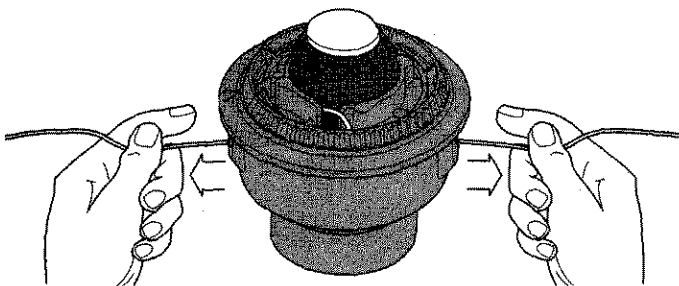

Fig. 23
- If winding the line becomes difficult or the line jams, pull the ends of the line from the spool (Fig. 23). Continue winding the inner reel counterclockwise.
- Hold the inner reel in place and install the bump knob, spring and foam seal. Press down and turn the bump knob clockwise. Grasp the ends and pull firmly to release the line from the holding slots in the inner reel. (Fig. 23).
If the SpeedSpool® does not release line correctly, pull the ends of the line firmly from the spool (Fig. 23). If this does not release line, follow the **Cleaning the SpeedSpool®** instructions.